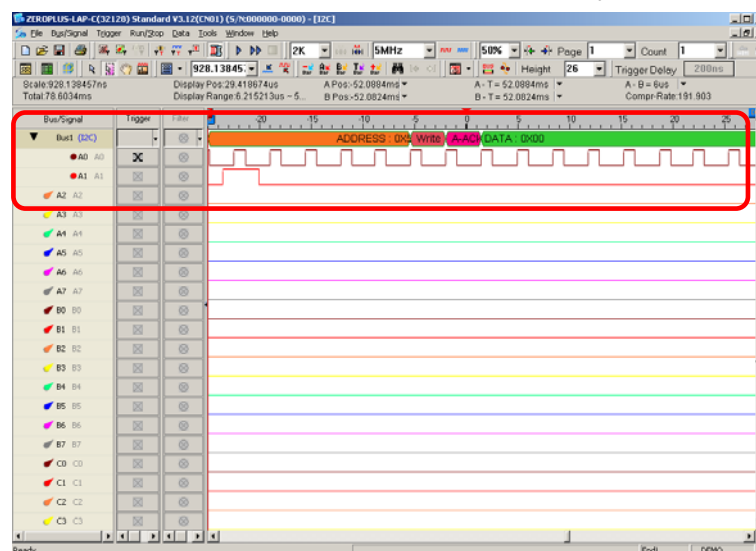

Fig 4-68 – Waveform Analysis
Step8. Click **Run** to acquire I2C signal from the tested I2C circuit. Refer to Fig 4-68.